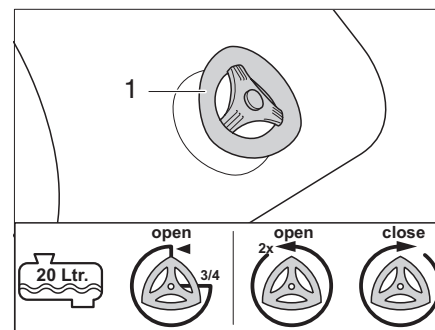

Fig. 126 Drain cock
- 1/2 full or less: Turn the drain cock (Fig. 126,1) 3/4 of a rotation anti-clockwise.
- 3/4 full and more: Turn the drain cock (Fig. 126,1) 2 rotations anti-clockwise.
- Close the drain cock (Fig. 126,1) clockwise.